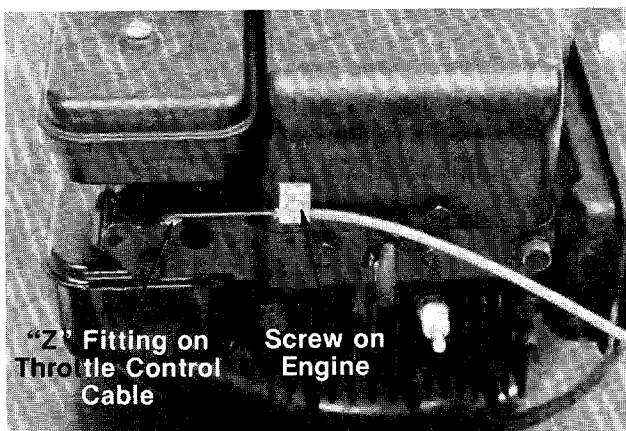

FIGURE 26.
6. Disconnect the throttle control cable from the engine by loosening screw on engine and disconnecting the "Z" fitting. See figure 26.